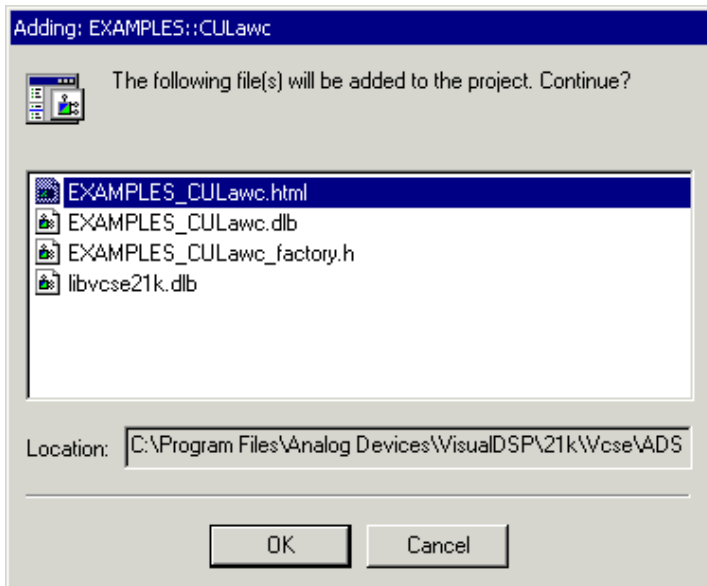

Figure 2-41. Adding Files to the Project
3. Click **Add** to indicate that you want to add the component to the project. Component Manager displays the dialog box shown in Figure 2-41.